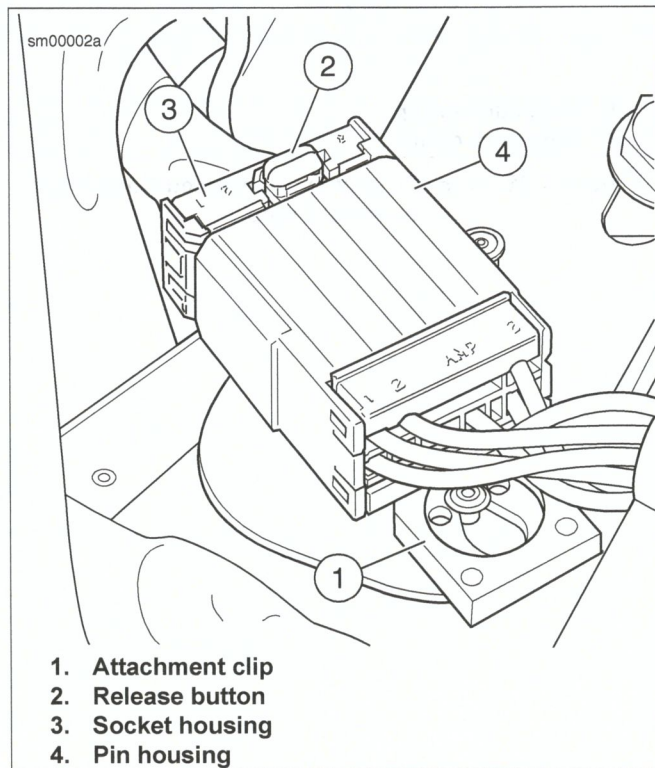

Figure A-26. Tyco 070 Multilock Unsealed Connector
1. See Figure A-26. Press the release button (2).